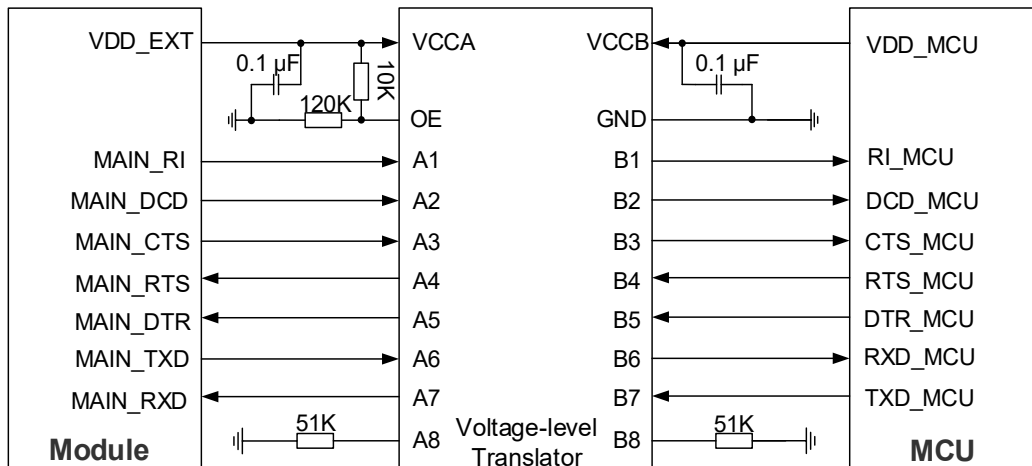
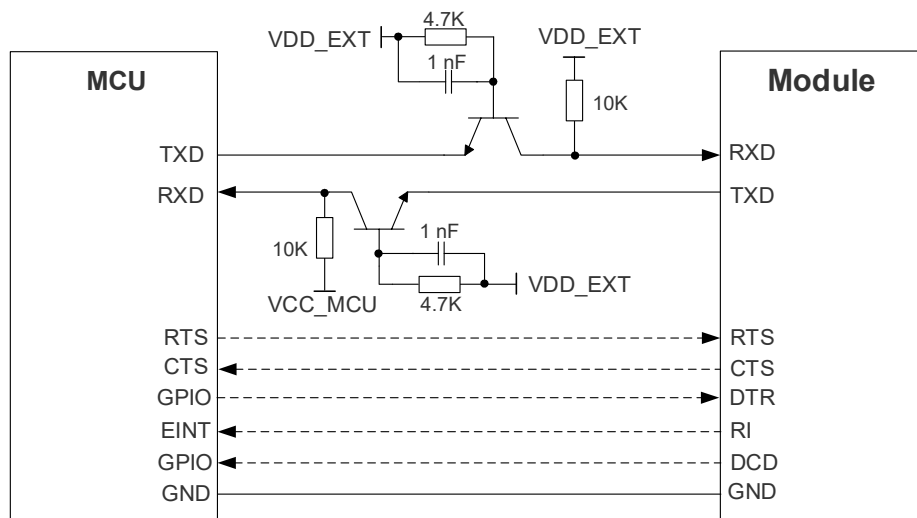

Figure 21: Reference Circuit with Translator Chip (Main UART)
Figure 22: Reference Circuit with Transistor Circuit (Main UART)
3. The level-shifting circuits (**Figure 21** and **Figure 22**) take the main UART as an example. The circuits of the debug UART are connected in the same way as the main UART.